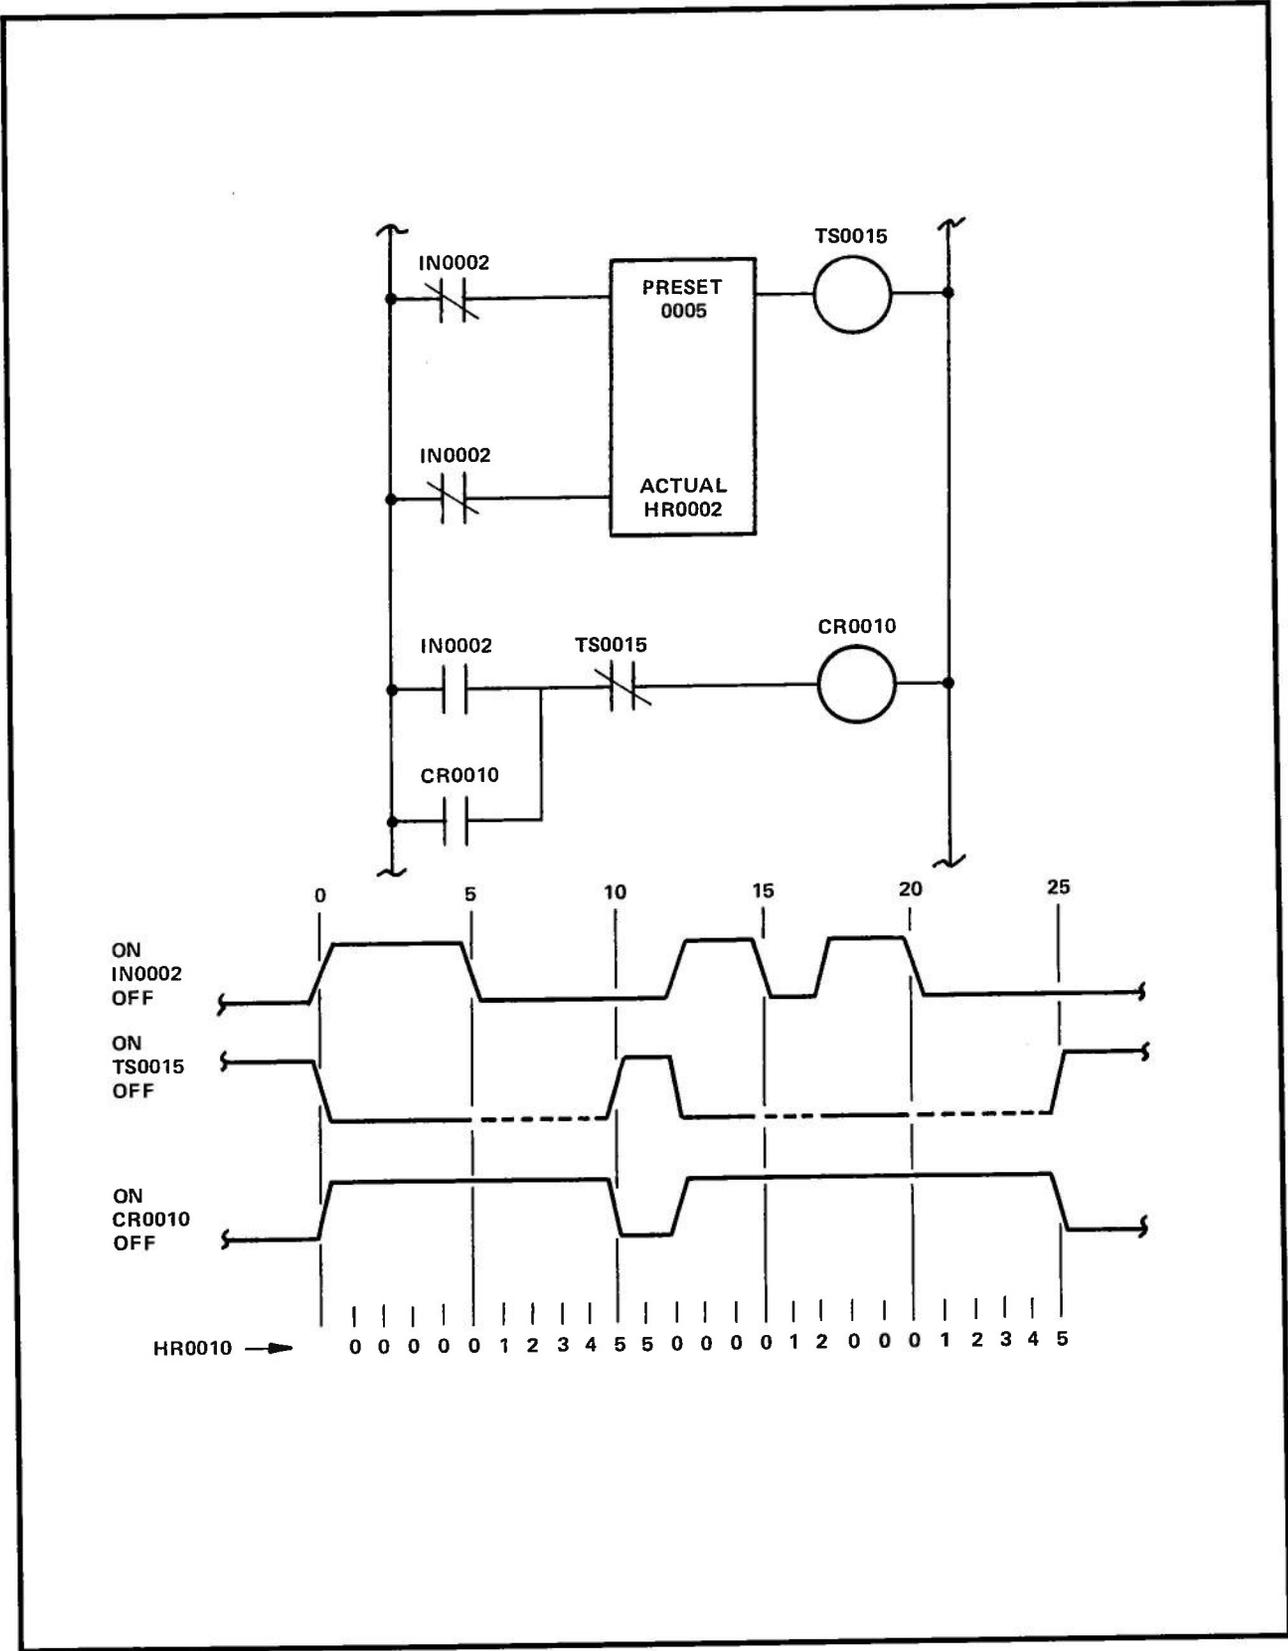

Figure 3. OFF Delay Timer Circuit
Figure 3 is an example of an OFF Delay timer circuit. In this circuit, IN0002 controls the timer. IN0002 is a normally-open (NO) switch. Its contacts in the timer control circuits are programmed to be normally-closed (NC). An additional ladder rung (CR0010) is required to implement the OFF Delay. Assuming that CR0010 is initially OFF and that IN0002 is not activated for some time, the TS0015 coil is energized, holding CR0010 OFF with the now open TS0015 NC